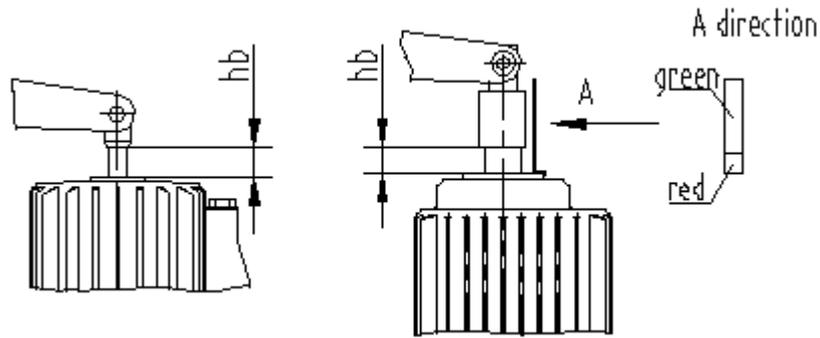

Fig. 6: Reserve stroke setting
For brake torque adjustments the brake must be in the closed position. Clockwise (CW) rotate torque-adjusting nut (Pos. 1) with a spanner, brake torque will increase, on the contrary, the brake torque will decrease.(refer to fig 6). The upper edge of the spring force indicator shows the brake torque.
After the reserve stroke is set, please re-install catch (Pos.3) correctly and make sure that the catch pin (Pos. 2) is running within the bore of the catch (Pos. 3). If the catch pin does not protrude far enough in the catch it must be turned out counter clockwise (CCW). When the brake is opened ,the distance between the catch pin (Pos. 2) and set screw (Pos. 1) is about 0.5-1 mm; when the brake is closed, the distance between the catch pin (Pos. 2) and inner bore diameter of the catch (Pos. 3) is about 0.5-1 mm (refer to fig. 6).